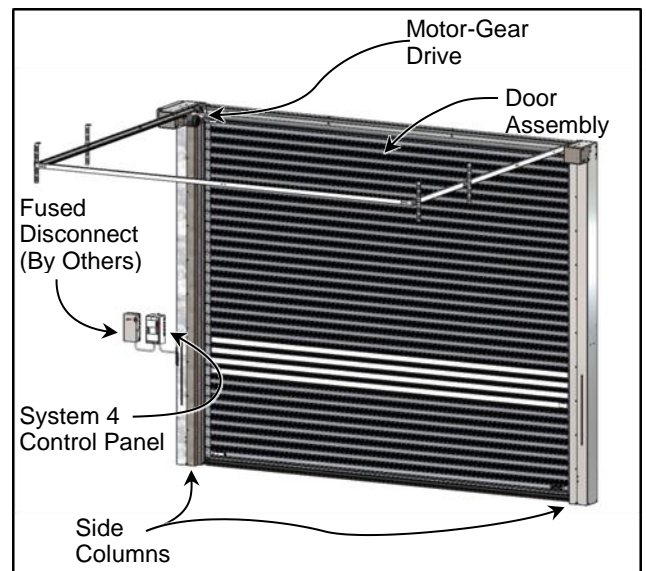

Figure 1
To obtain your DOOR SERIAL NUMBER, there are three (3) universal locations that this information can be attained. These are on the left side column assembly (at approximately eye level), on the non-drive side head console assembly, and inside the door of the System 4 Control panel. (See Figure 1)